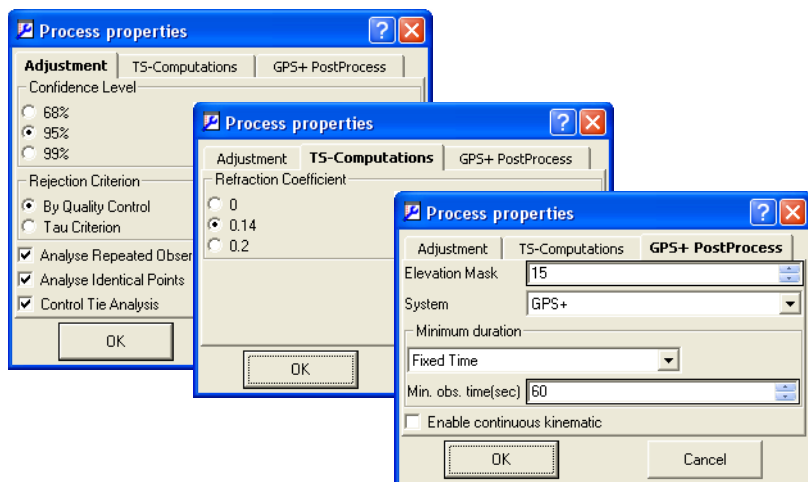

Figure 6-1. Process Properties
- Confidence level for the adjustment process: either 68%, 95%, or 99% (Figure 6-1). The default confidence level is 95%.
- On the **TS-Computations** tab, select the refraction coefficient: either 0, 0.14, or 0.2 (Figure 6-1). The default is 0.14.
- On the **GPS+ PostProcess** tab, select the elevation mask, combination of navigation system, and minimum observation time for the processing (Figure 6-1).
By default, the display and processing of GPS kinematic data is turned off. To display and process GPS kinematic data, select the “Enable continuous kinematic” checkbox on the *GPS+ PostProcess* tab (Figure 6-1). This tab can be accessed in either the *Job Configuration* or *Process properties* dialog boxes.